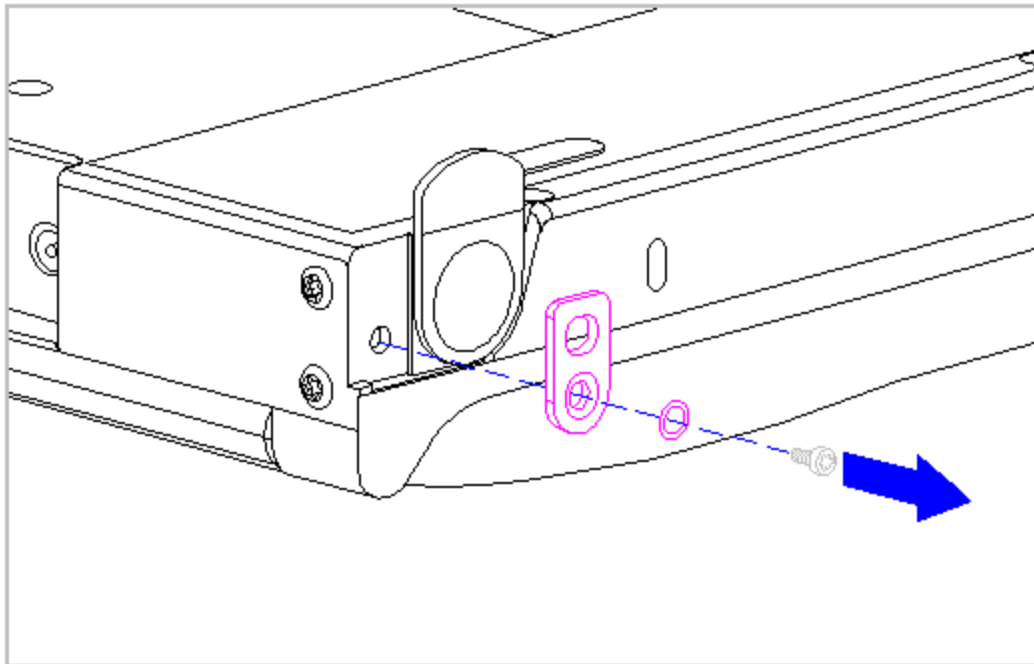

Figure 5-8. Removing the Handle Bracket
5. Remove the handle bracket (Figure 5-8).